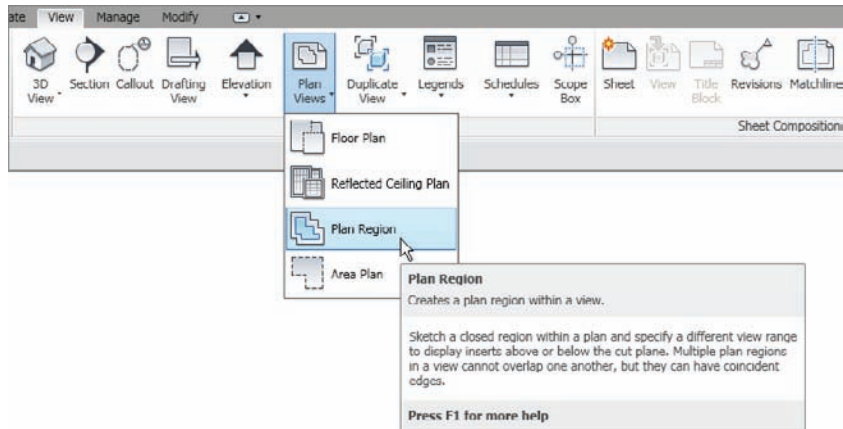

FIGURE 7.34 Using a plan region enables you to alter the view range in a specified area of a plan.
2. On the View tab, click the Plan Region button, as shown in Figure 7.34.